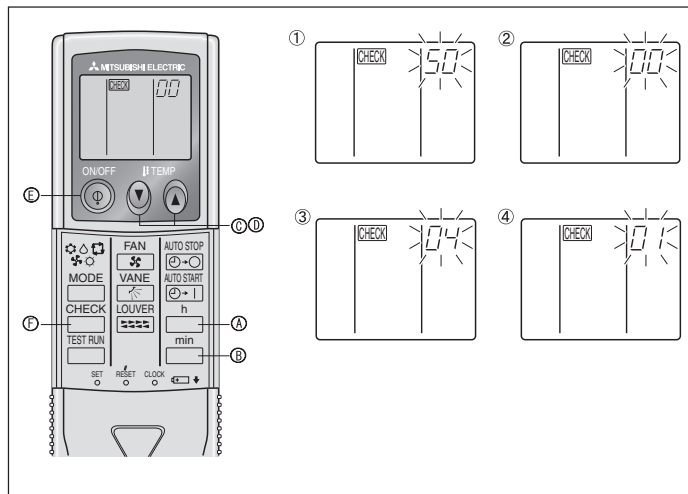

Fig. 6-10
- ⑧ Press the MODE button $\text{\textcircled{E}}$ and mode and the setting number (I) and (II) will change to being on constantly and the contents of the setting can be confirmed.
- ⑨ Press the FILTER $\text{\textcircled{A}}$ and TEST RUN $\text{\textcircled{B}}$ buttons simultaneously for at least two seconds. The function selection screen will disappear momentarily and the air conditioner OFF display will appear.
2) For wireless remote controller (Fig. 6-10)